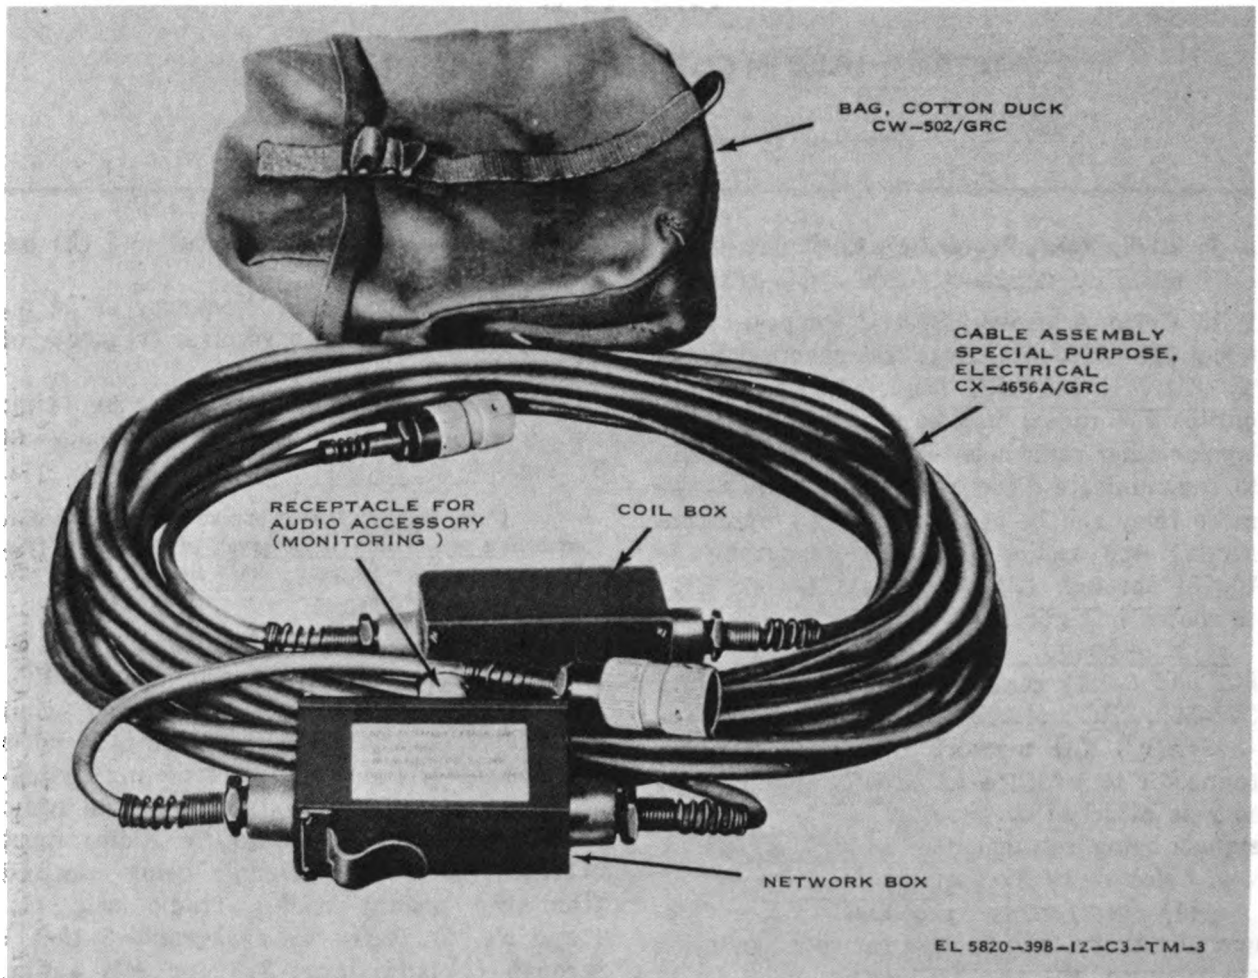

Figure 6-1. Retransmission Cable Kit MK-456A/GRC.
With Cable Assembly, Special Purpose, Electrical CX-4656/GRC from Retransmission Cable Kit MK-456/GRC (fig. 6-1), two compatible FM radios may be used as a radio relay for other radio sets that are too far distant to communicate directly with each other. The radio relay can be accomplished by interconnecting the radios listed in paragraph 3-10c(1) through (8) with the CX-4656/GRC as shown in figure 6-2.
(6) Communicate with radio set No. 1 from radio set No. 2, and advise the radio set No. 1 operator that the relay site is prepared for communication with radio set No. 4
(7) Communicate with radio set No. 4 from radio set No. 3, and advise the radio set No. 4 operator that the relay site is prepared for communication with radio set No. 1.
(8) Communication proceeds automatically between radio sets No. 1 and No. 4 with out any operation required at the relay site.
(9) For the operator at the relay site to communicate with radio set No. 4 connect a handset to the audio connector in the network box (fig. 6-1 and 6-1.1). To communicate with radio set No. 1, connect the handset to radio set No. 2 (which is the one that is next to the network box).